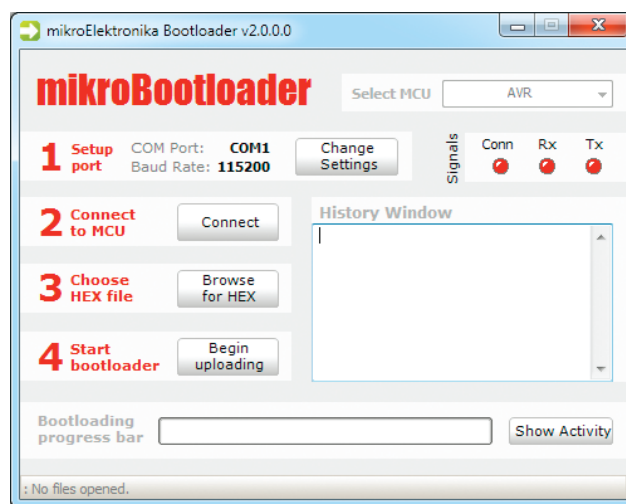

Figure 3-2: mikroBootloader window
- 01 When you start mikroBootloader software, a window shown on **Figure 3-2** should appear.